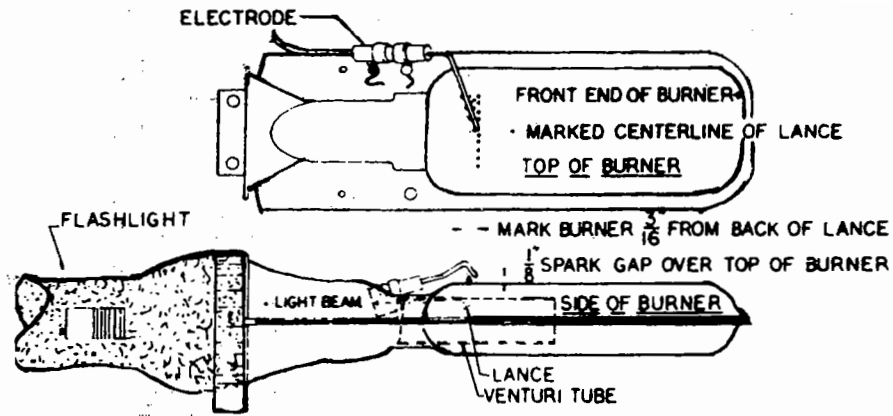

Figure 19
11. Make sure electrode is not grounding to burner, the gap between the spark probe and the ground probe is 1/8" (see Figures 19 and 21), and the ceramic insulator is not cracked, broken or sooted. Adjust, clean or replace as necessary.
15. If the electrode sparks and the valve opens but the burner will not light, check the gas supply for 11" WC pressure to the main burner orifice. If 11" is present to the valve but not to the orifice, replace the valve. Check vent and air intake installation. Check the main burner for correct relationship to the electrode assembly (burner should be 3/16" from the spark probe and sawports or charge ports directly under the spark gap). Check main burner for soot build-up in ports. (See Figure 19 for SF models correct electrode adjustment.) Clean cast-iron burners by passing a hacksaw blade through the sawports, being careful not to enlarge the openings. Wirebrush stainless tube burners to remove build-up.
1. Check to be certain that the flame sensor is over slots in the main burner and that the main burner flame is burning against the tip of the flame sensor - adjust by bending the sensor probe. NOTE: Sensor probe should be in the inner blue cone of the burner flame, approximately 1/4" to 5/16" above the burner. See Figure 19 for SF furnace electrode adjustment.